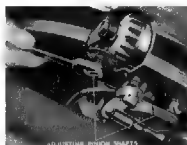

Fig. 52—Adjusting 1-Ton Rear Brakes
2. Turn the adjusting pinion (fig. 52), in a clockwise direction until the shoe causes a slight drag on the brake drum.